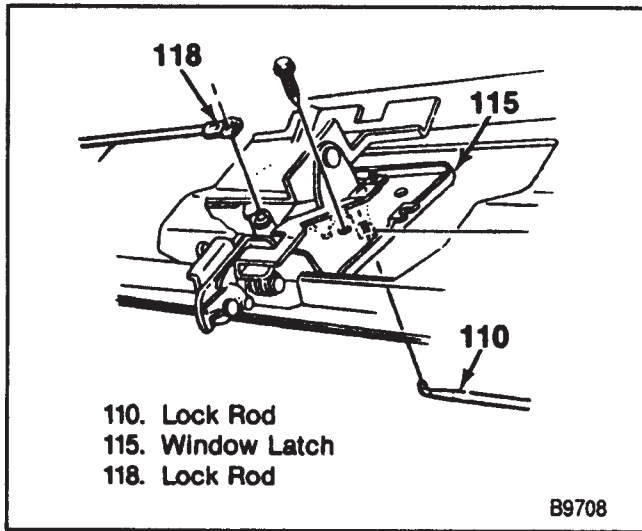

Figure 9—End Gate Lock Rods
4. Right and left locking rods from the window lock assembly (figure 9).
Install or Connect (Figures 9 and 14)